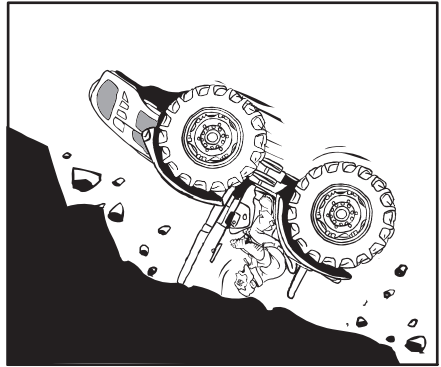

Fig. 2.15
- If operating near ditches or banks, keep the tractor behind the fracture line. Avoid ditches, embankments, banks and edges of rivers which could cave in (Fig. 2.15).